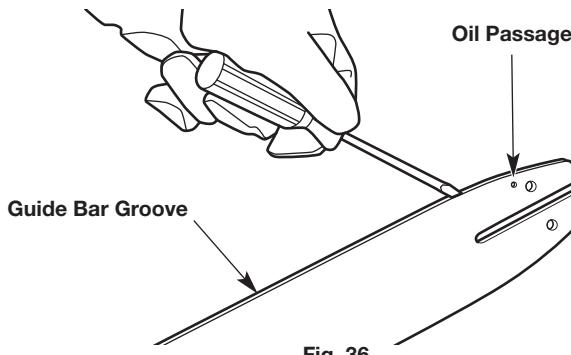
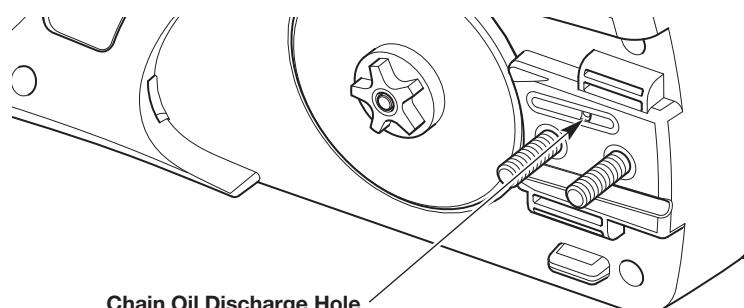

Fig. 36
Fig. 37
2. Clean the guide bar groove and oil passages whenever the saw chain is removed, when the unit has been used heavily or when the saw chain appears dirty. Use a screwdriver, putty knife, wire brush or similar instrument to remove debris from the guide bar groove (Fig. 36). Use a small, soft wire to remove any debris from the chain oil discharge hole (Fig. 37).